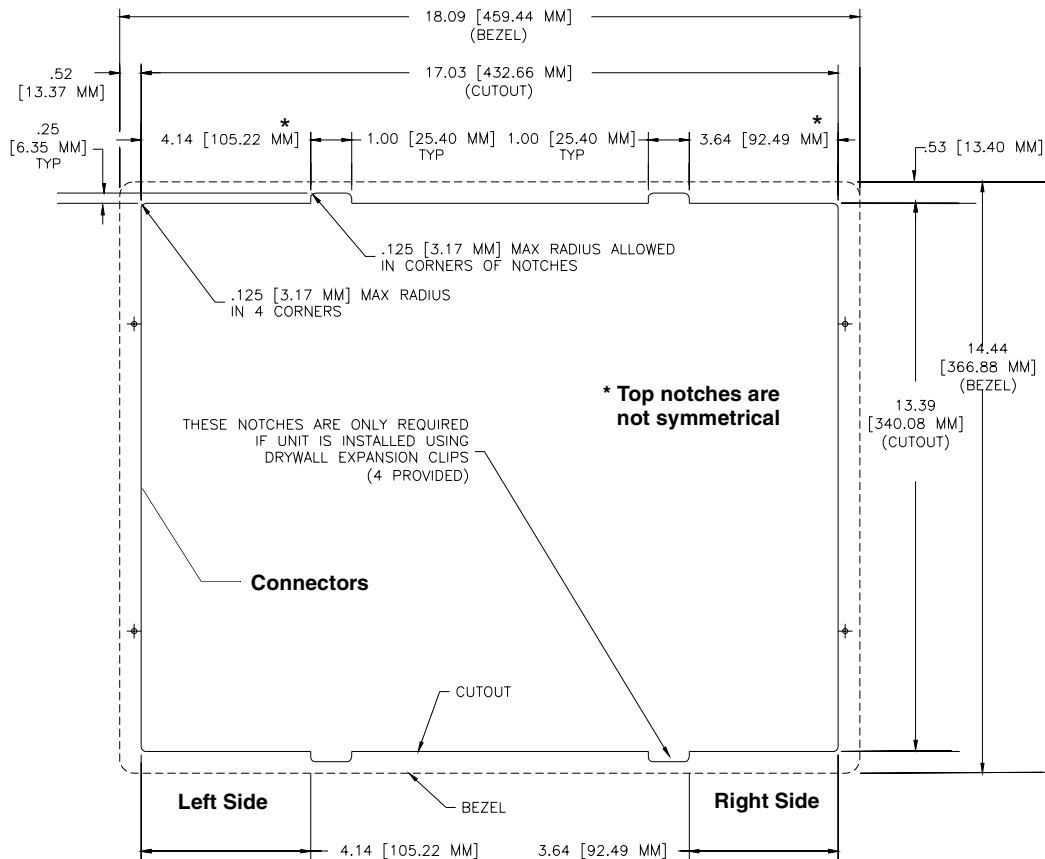

FIG. 59 NXD-1700VG Wall Mount panel dimensions using expansion clips
4. Cut out the surface for the NXD-1700VG Wall Mount using the dimensions shown in FIG. 59. Be sure to cut out the four notches along the top and bottom areas to accommodate the four drywall expansion clips (provided).
9. Cutout the notched beam (FIG. 59) using a height of 13.554" (34.43 cm) and a depth *using the following guideline*. This notched beam is located on the side of the NXD unit furthest away from the connectors.
- Calculate the distance from the edge of the mounting ridge (FIG. 59) to the rear point (on the box) where the beam touches the back box. Our example uses **1 3/8" (inches)** (on the deepest point of the rear back box).